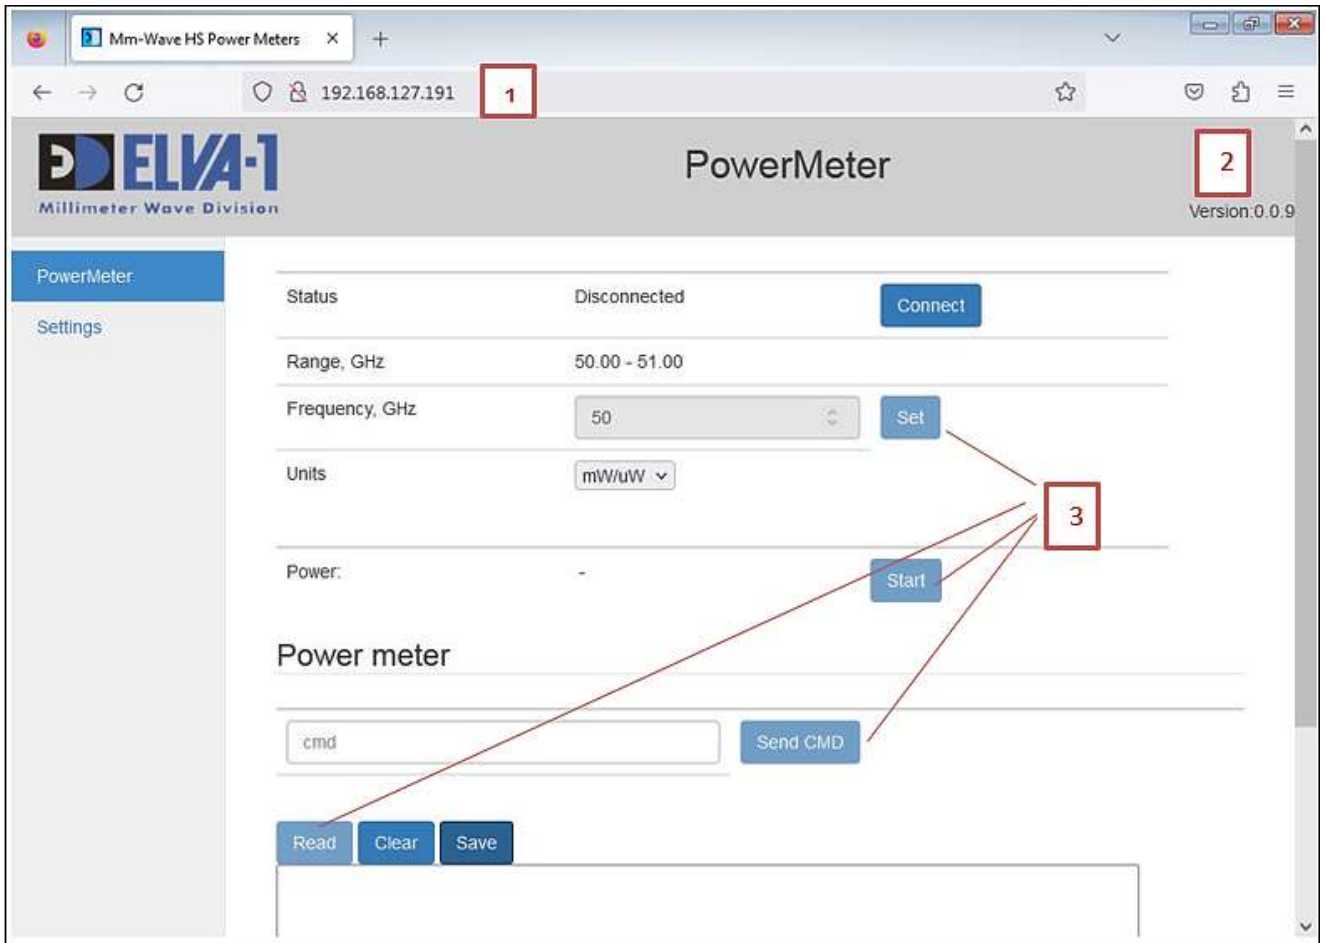

Fig.1 Web interface start page
1. To connect to the DPM device, enter the DPM's IP address into the browser's address bar [refer to marker #1 in Fig. 1].
The software version is indicated in the upper right corner [marker #2, Fig.1]
Please note that not the all buttons are active after the page loads [marker #3, Fig.1]
Enter the new DPM IP address in the browser address bar [marker #1, Fig. 1].
- Afterward, reload the web page by entering the DPM IP in the address bar [marker #1, Fig. 1].